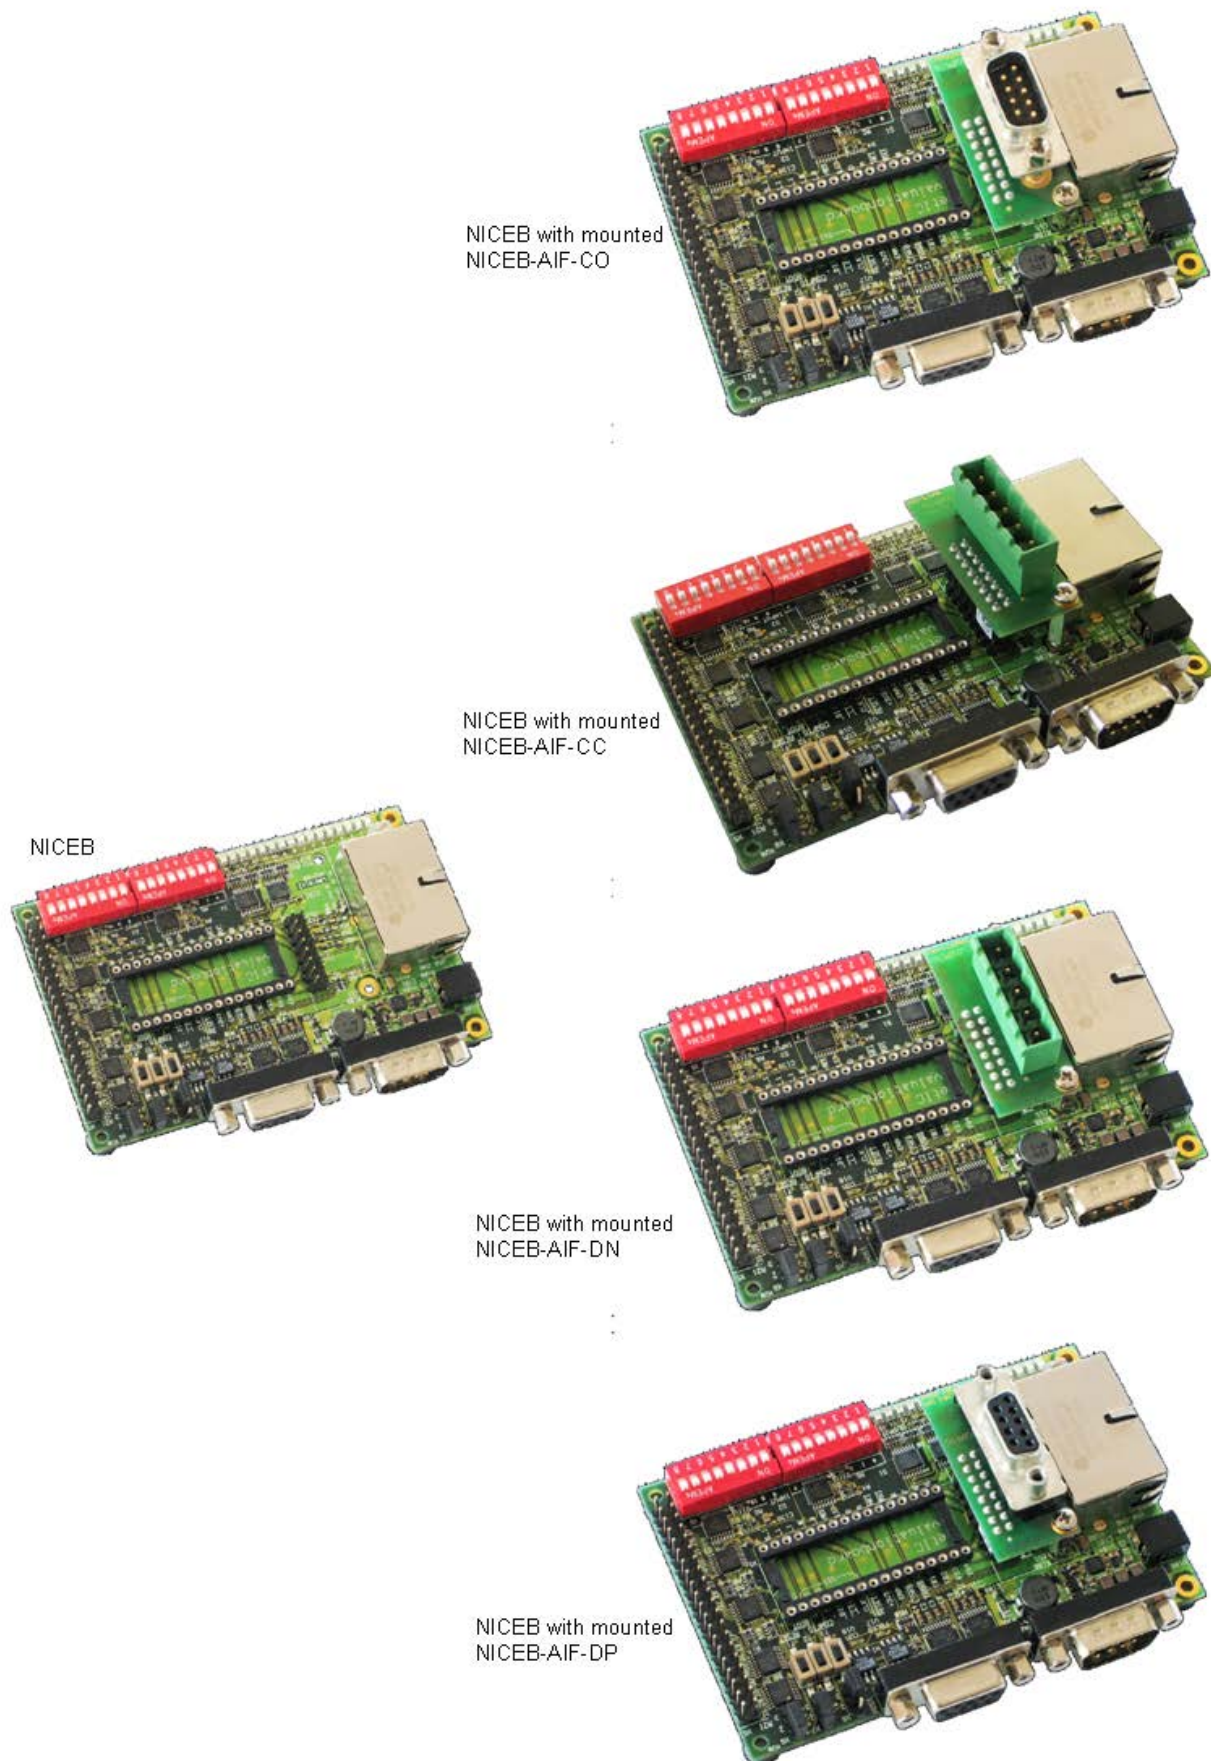

Figure 5: NICEB with Adapter
- Your NICEB Evaluation Board should now look like the left picture in the respective picture row in *Figure 5: NICEB with Adapter* on page 45. (The order in is as follows: CANopen, CC-Link, DeviceNet and PROFIBUS-DP)